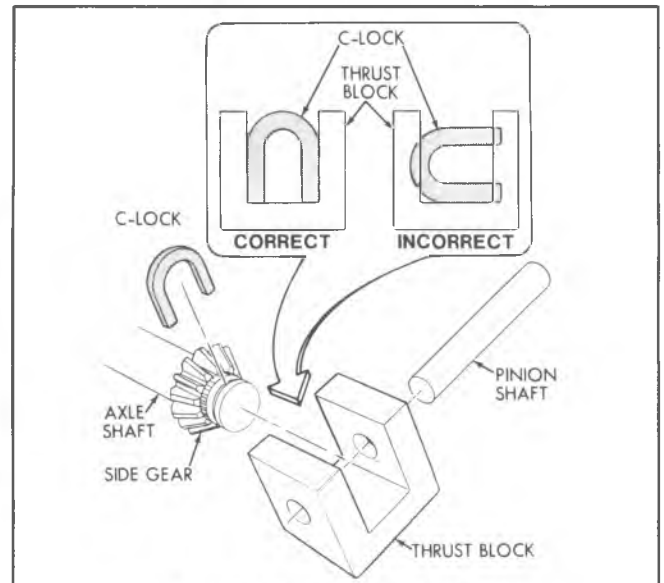

Fig. 15--Correct C-Lock Position
5. Reach into the case with a screwdriver or similar tool, and rotate the C-lock until its open end points directly inward, as shown in figure 15. The axle shaft cannot be pushed inward until the C-lock is properly positioned.
7. When installing C-locks keep the pinion shaft partially withdrawn. Place the C-lock in the same position shown in figure 15. Carefully withdraw the axle shaft until the C-lock is clear of the thrust block. When both locks are installed, install the pinion shaft and lock screw.